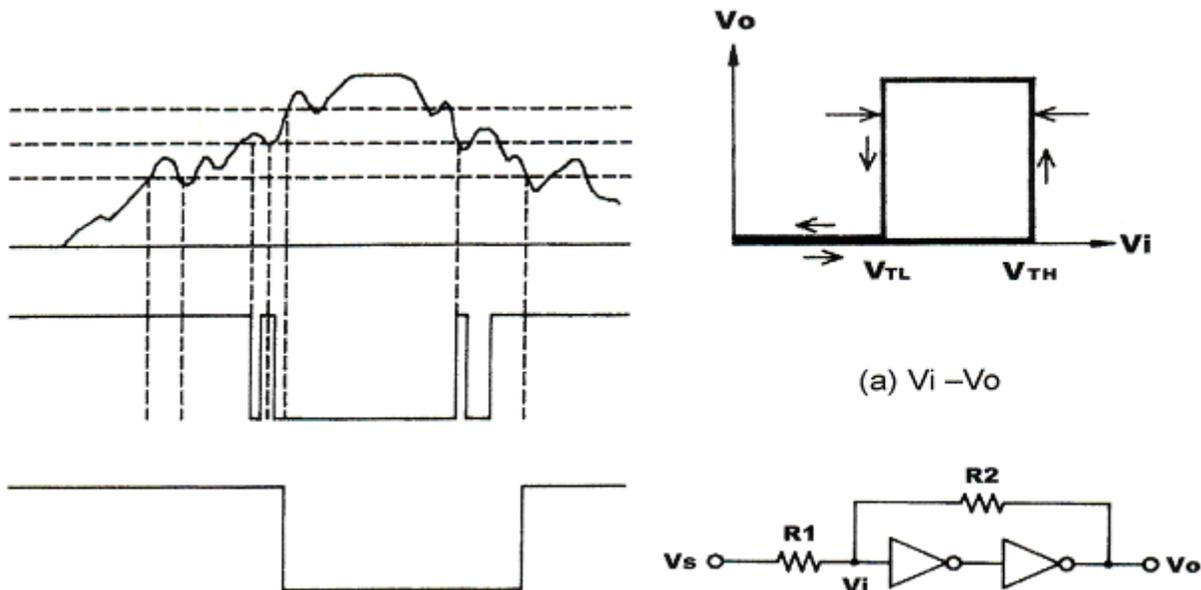

Fig. 2-18 Schmitt gate
3. Since the Schmitt gate has V_{TH} and V_{TL} , it's less susceptible to noise interference which affects most logic gates. The output pulses of Schmitt gate have higher speed too. Fig. 2-18 (a) is a comparison of Schmitt gate input/output waveforms. Fig. 2-18 (b) demonstrates how a Schmitt gate can be constructed using basic logic gates.